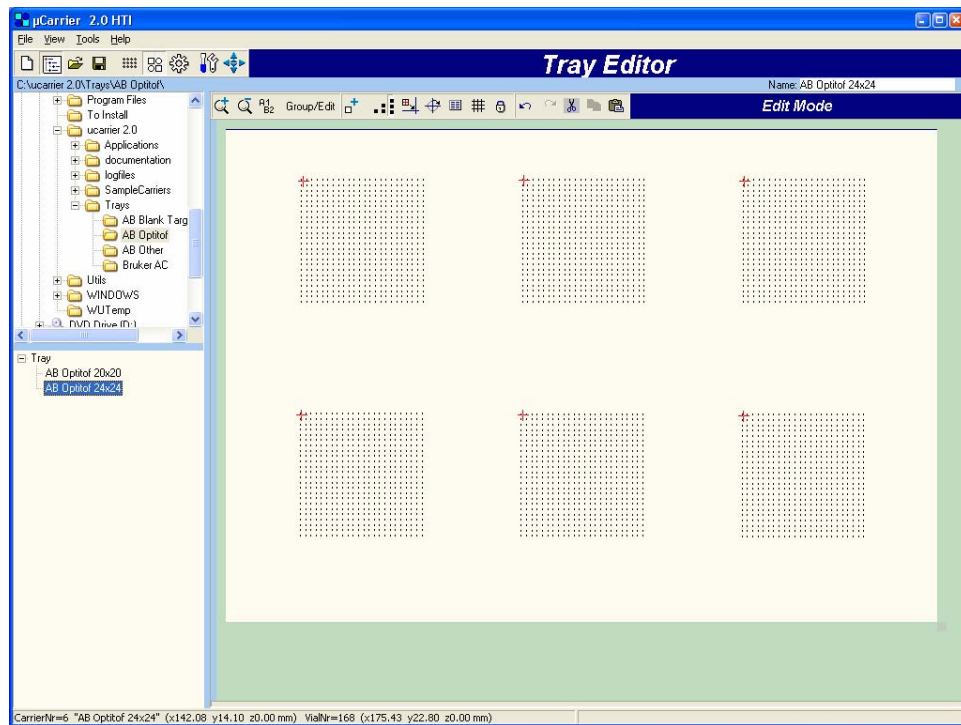

FIGURE 2-33 Tray Editor with the 6 Sample Carriers
- a) Load the tray setup that needs to be modified (FIGURE 2-33).